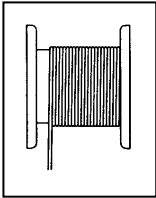
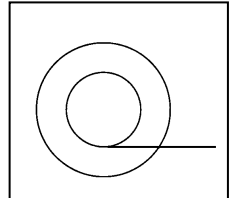

Fig 3. Correct (even) winding
Fig 6. Rope exit under the drum
- Check the winch and its function before use. The rope must be correctly wound onto the drum. See Fig 3.
Winches are supplied with a wound-on wire rope fitted with load hook. Make sure the wire rope is correctly wound onto the drum. See Figs. 3, 4 and 5. There must be at least **three rope turns** on the rope drum when the rope is fully uncoiled. The rope exit should be from the underside of the rope drum as shown on Fig. 6 to ensure minimum strain on the winch fixings.